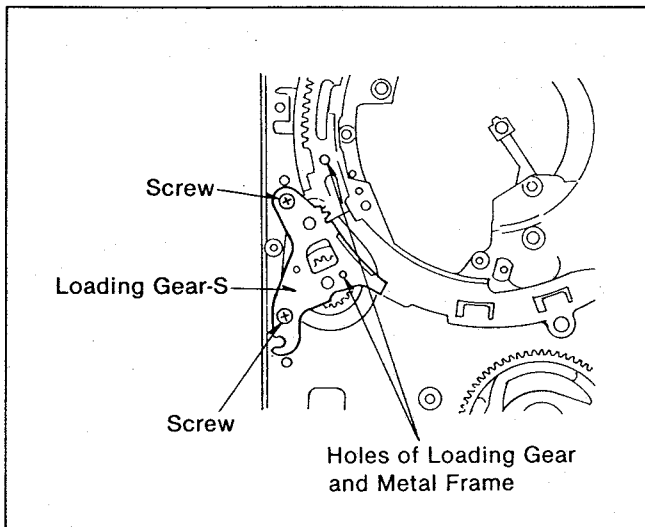

Fig. M6
(2). Install the Loading Gear-S so that the hole of Loading Gear is exactly in with the hole of metal frame of Loading Gear-S Unit as shown in Fig.M6.